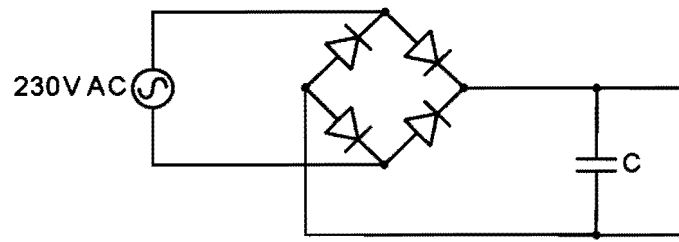

Fig. 3 (a)
- 3 (a) (i) A portable welder requires a 300 V, 10 A (nominal) supply, which is to be obtained using the single-phase bridge rectifier shown in Fig. 3 (a). The output voltage must not fall below 275 V. Choose a value for the smoothing capacitor, noting any assumptions made. [25%]
- (b) (i) A power factor correcting circuit is shown in Fig. 3 (b). For the load of Part (a), the controller chip manufacturer recommends continuous conduction in L1, with a sinusoidal 50 Hz current waveform and low current ripple. Give two reasons why operating at the boundary of continuous conduction in L1 is attractive and state two drawbacks. [20%]